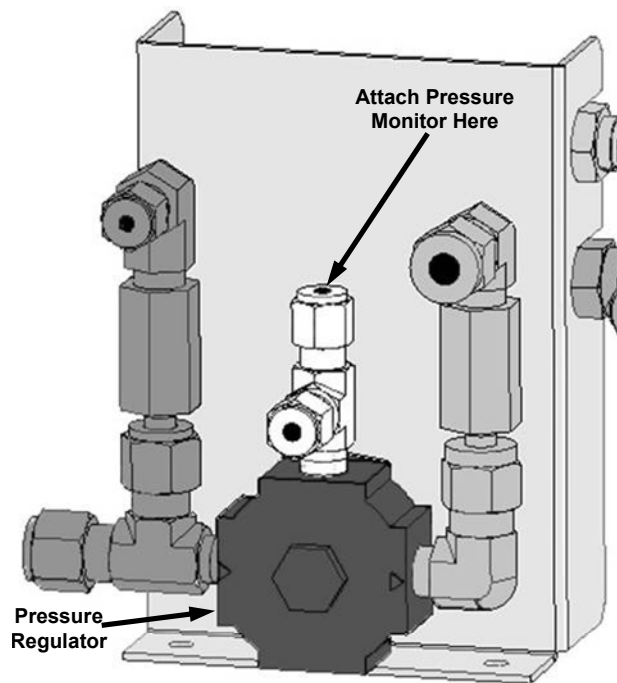

Figure 6-5: Pressure Regulator Monitor Connection Point (T703 and T703U)
2. Connect a pressure meter to the Regulator Pressure measurement fitting (see Figure 6-5). This fitting is located on the backside of the regulator assembly.